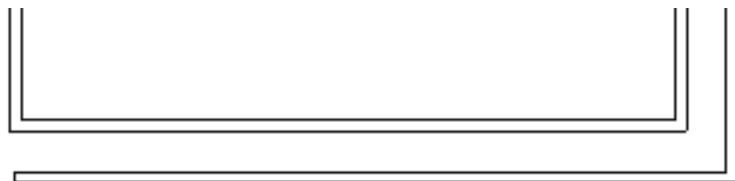

Figure 2–70
- Most linear elements connected at a corner automatically trim or extend to meet at the offset distance, as shown in Figure 2–70.